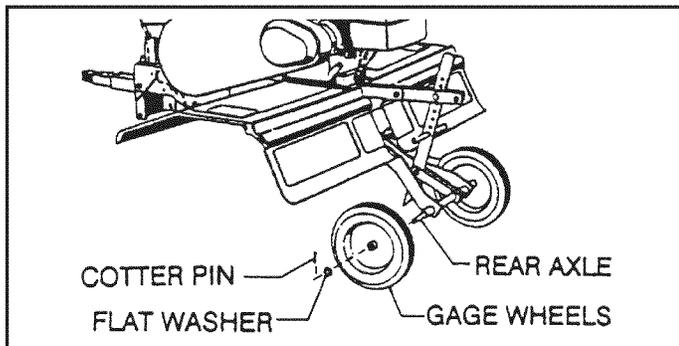

FIGURE 2
- Assemble Gauge Wheels onto the Rear Axle with the extended end of Hub facing inward. Secure with the Flat Washers and Cotter Pins which you removed from the axle during unpacking. (See Figure 2.)